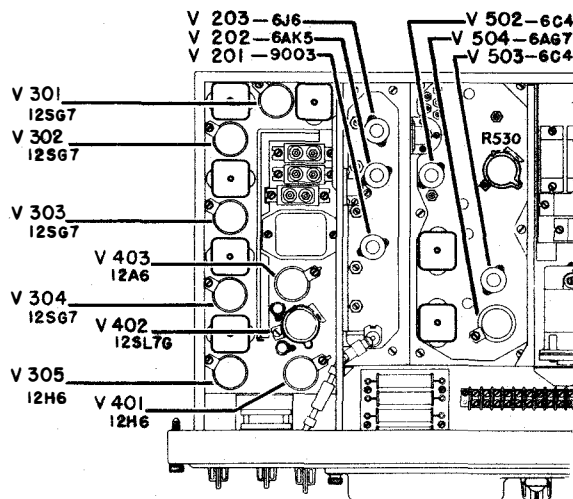

Figure 5-2. Tube Location
(1) REPLACING TUBES.—When the checking procedure given in Table 5-1 or gradual loss of signal strength indicate failing tubes, they should be replaced at once. The location and type of all tubes used in the receiver are shown in Figure 5-2.